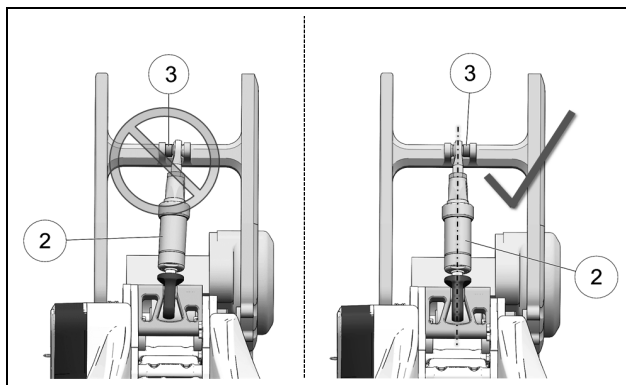

Figure 24
- Position the Soft Strut to the bike's shock absorber upper mount. See Figure 24.
**IMPORTANT:** Flanged spacer bushing (3) must be installed and positioned correctly in Soft Strut rod end.
- Verify and adjust if needed the insertion direction of the spacer bushing (3) to align the Soft Strut (2) as straight as possible once the rear System is installed. See Figure 24.